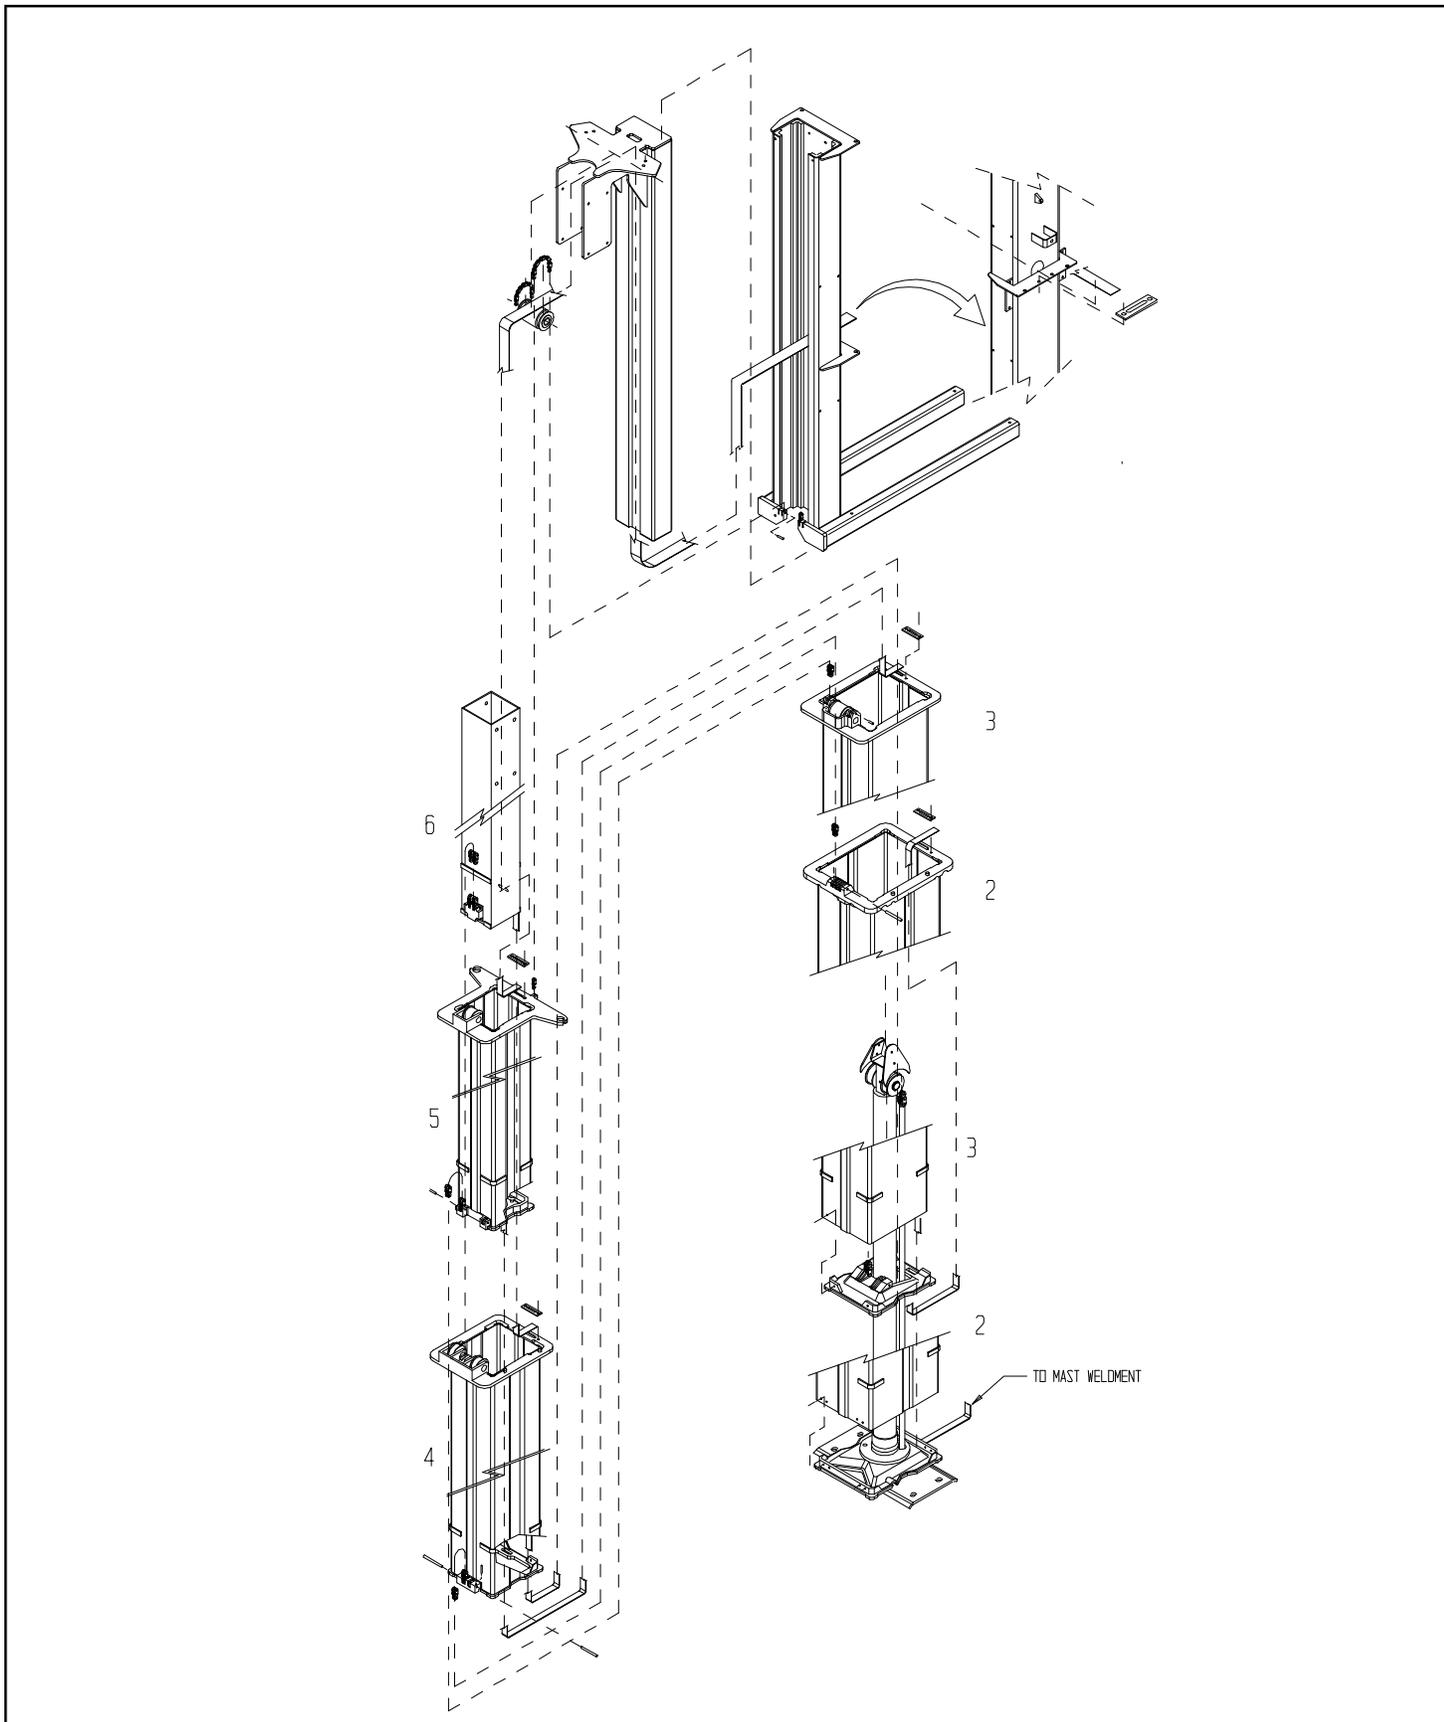

Figure 4-6: Mast Assembly, Strap and Chain Detail
4.5 Mast Assembly (Figure 4-6,4-7) Disassembly
Platform Assembly Removal (Figure 4-6)